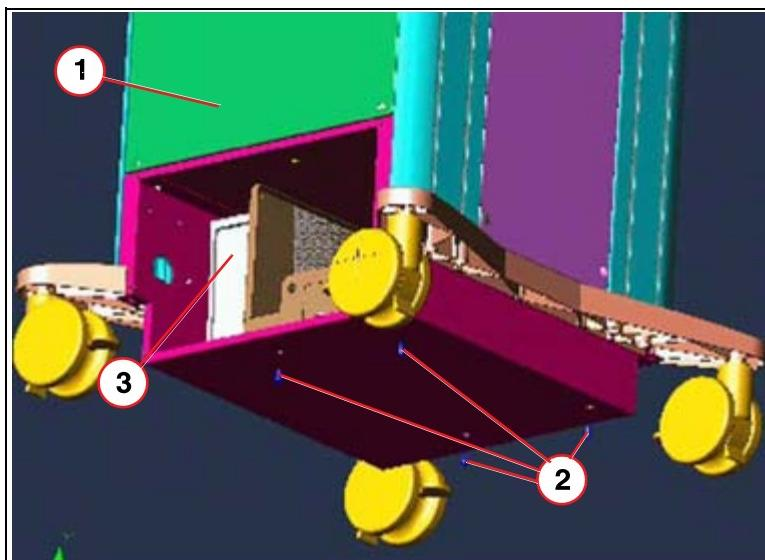

Fig. 39: Power supply
4. Unscrew the 4 screws from the rear cover and remove the cover (1/Fig. 39 / p. 81)
5. Unscrew the 6 screws from the lower rear cover and remove the cover (cover already removed in (Fig. 39 / p. 81)).
6. Unscrew the 4 Allen screws (2/Fig. 39 / p. 81) for the power supply component.